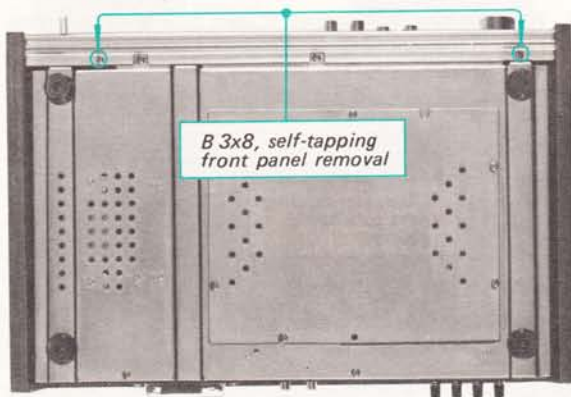

Fig. 2-1. Front panel removal (bottom view)
3. Remove the two screws from the bottom plate and one screw at both sides of the front subchassis as shown in Fig. 2-1 and 2-2. This frees the front panel.